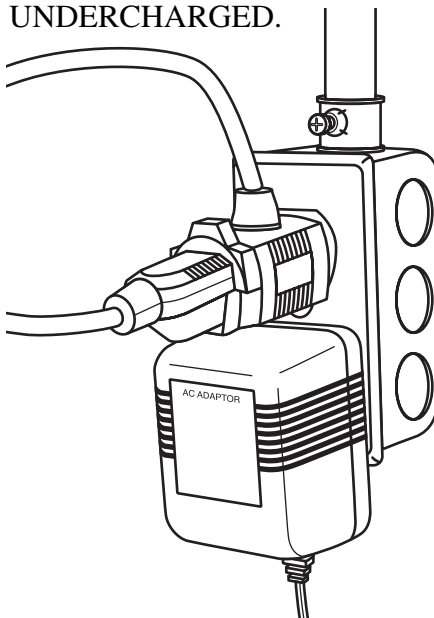

Figure 3 AC-115 V Outlet and Hydromatic piggyback switch plug
7. Insert the plug of the battery charger into the CHARGER socket of the control panel and plug the charger into an AC-115 volt power outlet. (Figure 3 on page five.)